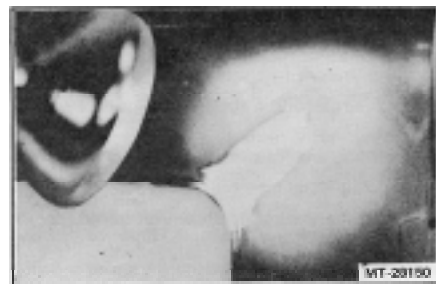

Figure 55. - Shrinking Body Filler
4. Now, pre-shrink the filler, using a heat gun or heat lamp. A minimum temperature of 49°C (120°F) is required for shrinkage (Figure 55).